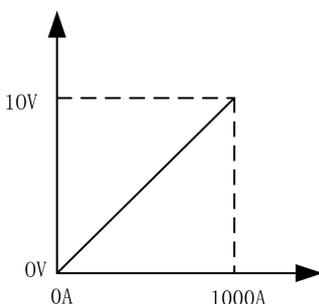

Fig. 4-32 Proportional diagram: real-time welding current V.S. value from welding machine to robot
1. The proportional diagram of the preset wire-feeding speed is shown in Fig.4-32.